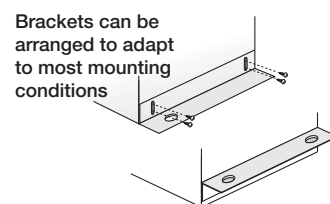

Figure 4 — Mounting Brackets
2. Attach adjustable mounting brackets to fan, but leave the screws loose until proper height is determined, shown in Figure 4.